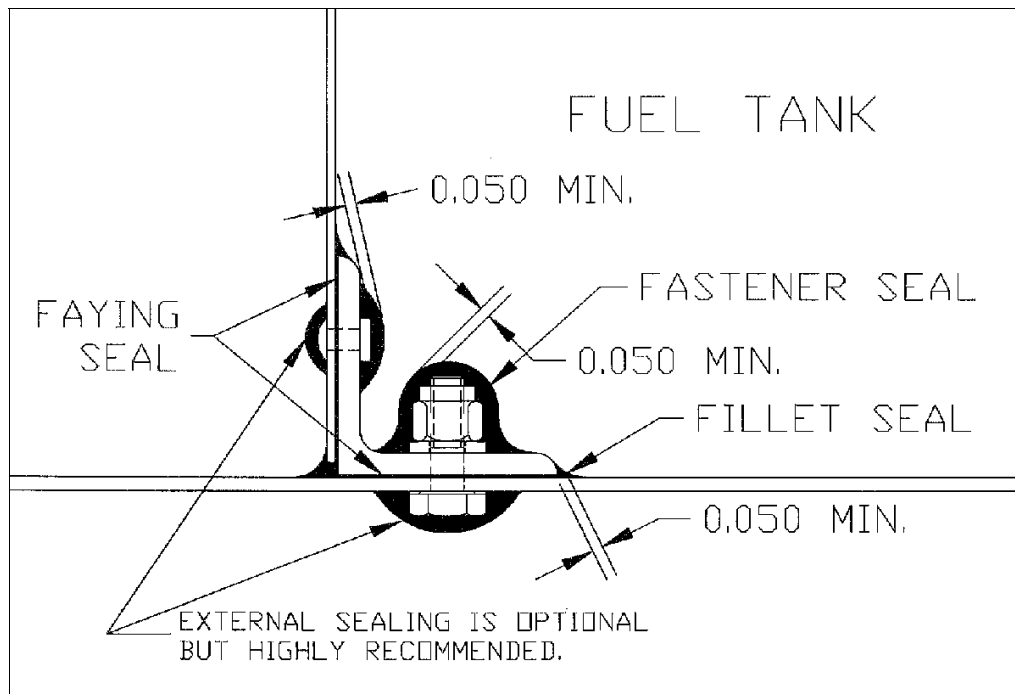

Figure 5.4): Fuel Tank Sealing Illustration
- 5.4.3) With the work area immaculately clean, assembly work can begin. Refer to Figure 5.4) for illustration and terminology.
- 5.4.3.2) Fasteners are always installed wet. That is, their shanks and under the head is coated with "B" sealant prior to installation. After installation, some sealant will have squeezed out around the ends. Smooth this out and add more to completely seal the fastener ends as shown in Figure 5.4). Use a tool or a latex gloved finger for smoothing, not a bare finger. Do not try to clean up excess sealant with solvent.
- 5.4.3.3) Fillet seals are continuous lines of sealant along the joints between two parts. The bead squeezed out from the faying seal is a good start, and may be sufficient when formed into a fillet. If the bead material is not enough to get the coverage thickness specified in Figure 5.4), add more "B" sealant. Use a tool or a latex gloved finger for smoothing, not a bare finger. Do not try to clean up excess sealant with solvent.